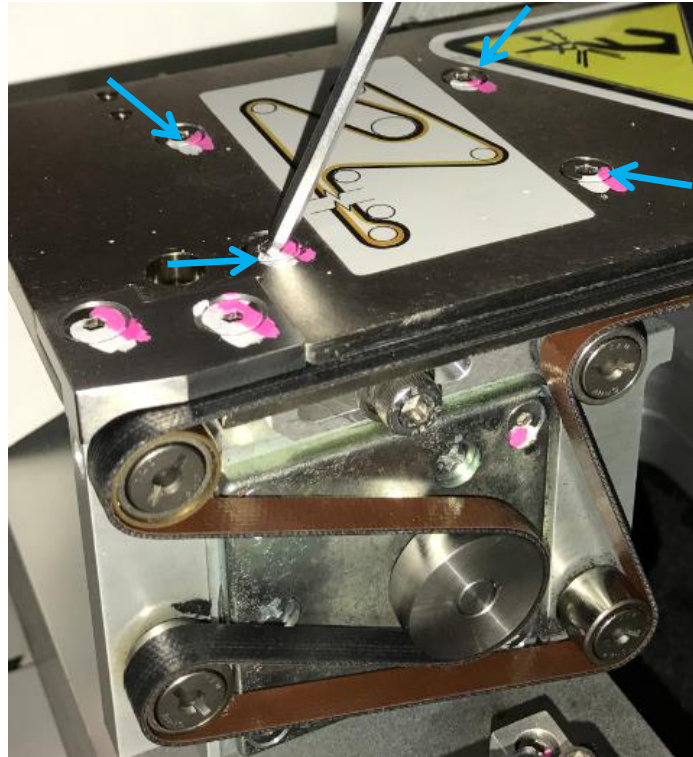

Figure 20 Adj Rail Mount Pulley Assembly
- a) Loosen 4 x Screws at Mount Pulley assembly as below Figure 20